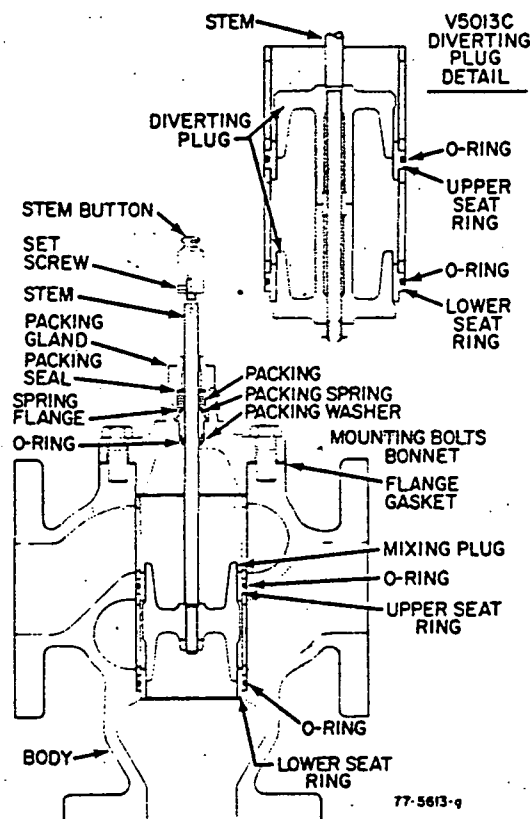

Fig. 7—Cutaway of Typical V5013B Flanged Type Body and V5013C Diverting Plug.
f. Flanged 3-Way Valves (V5013B-E) – The bonnet may be detached by removing mounting screws. The upper seat ring can then be unscrewed so the stem and plug assembly can be lifted out. The lower seat ring can then also be removed through the bonnet opening (Fig. 7).